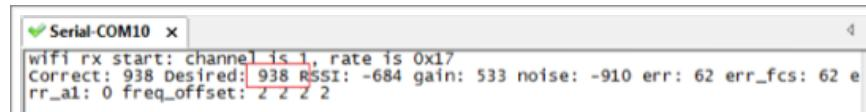

Figure 4-17. Printed Logs of Packet Receive Operation Power Consumption Test #3
- After execution of the command, UART will output logs as Figure 4-17 shows. ESP8266 receives 93.8% of the data sent in this case.